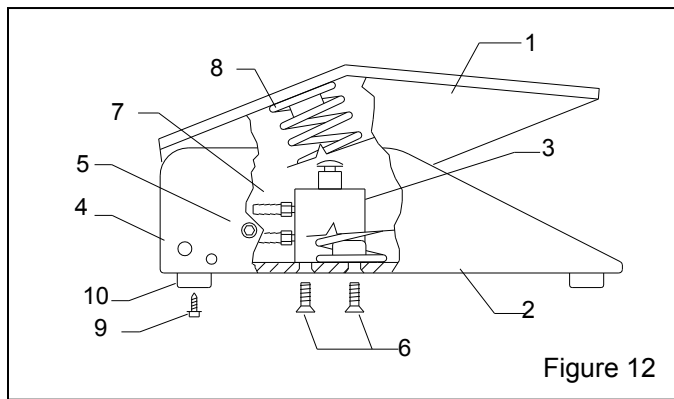

Figure 12
9.4 Foot Pedal Assembly, Figure 12